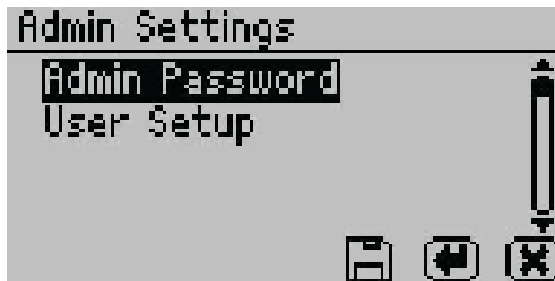

Figure 38 Admin Settings option
- **Admin Settings.** Select to create an administrator password as well as create, edit, and delete additional users (Figure 38).